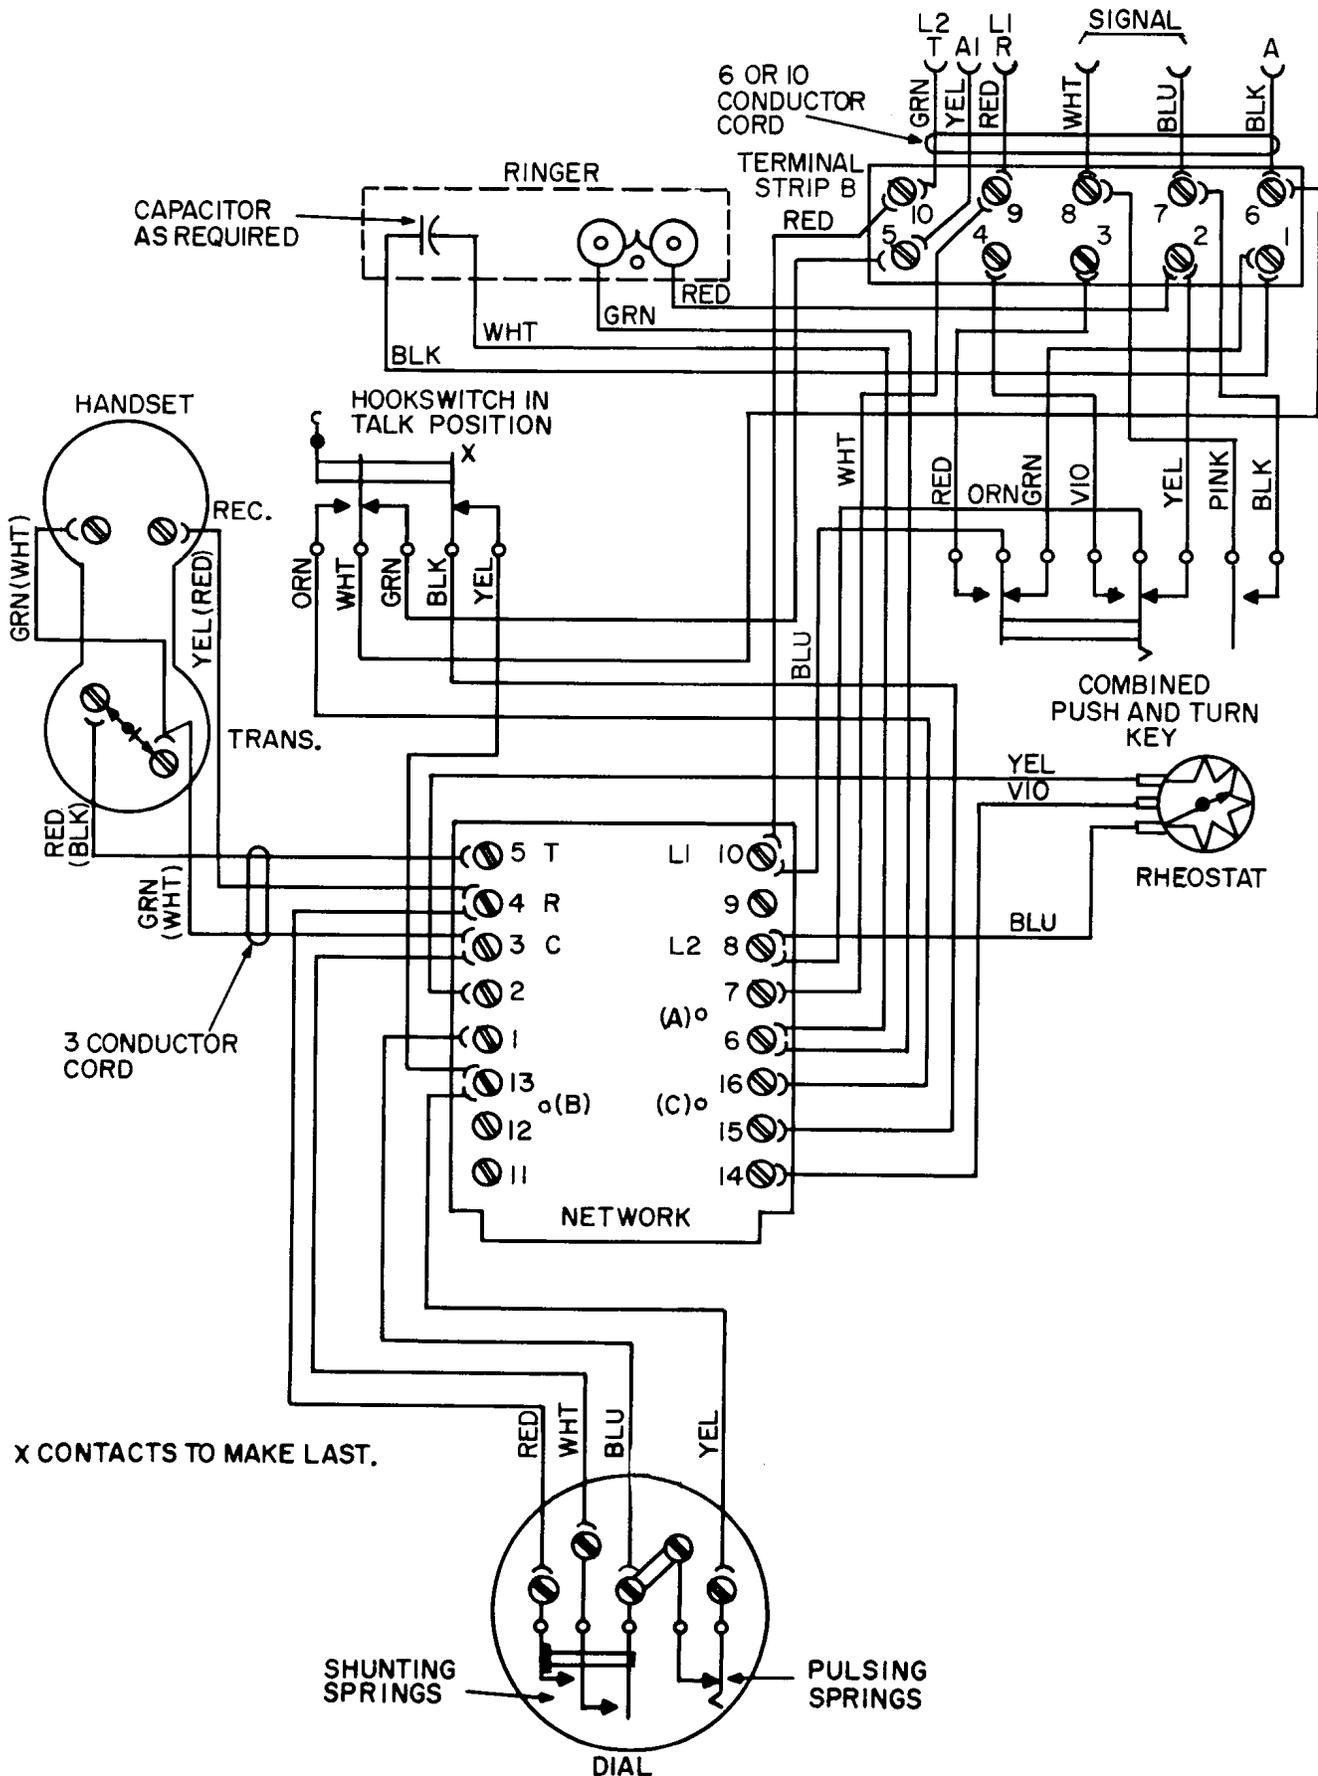

Figure 3. Wiring Diagram of Modified Type 85A Telephone Set With Series Rheostat.
4.02 The wiring diagram of a Type 85A set with manually-adjusted series rheostat is shown in Figure 3 as modified for key system operation. The modification procedure is set forth in steps (1) through (5) below.